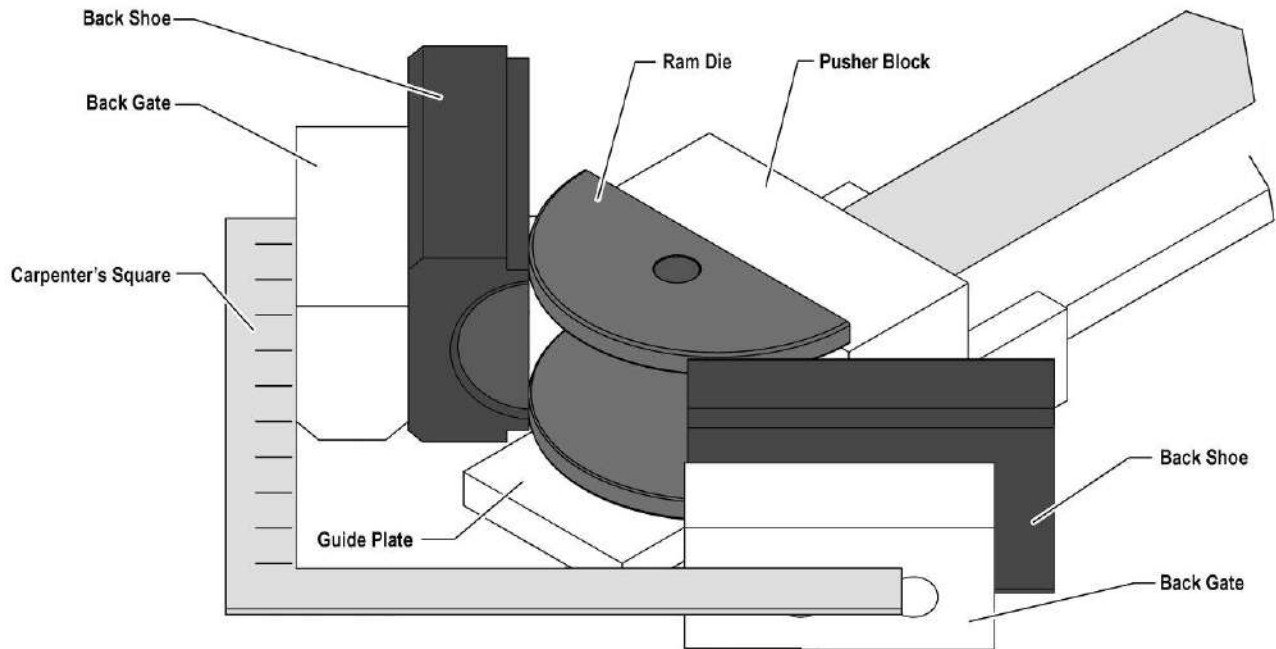

Figure 11. Setting Bend Angle
2. Jog the gates back and forth until the square rests flush against the back of each gate. The back gates are now set physically at 90°. See Figure 11.